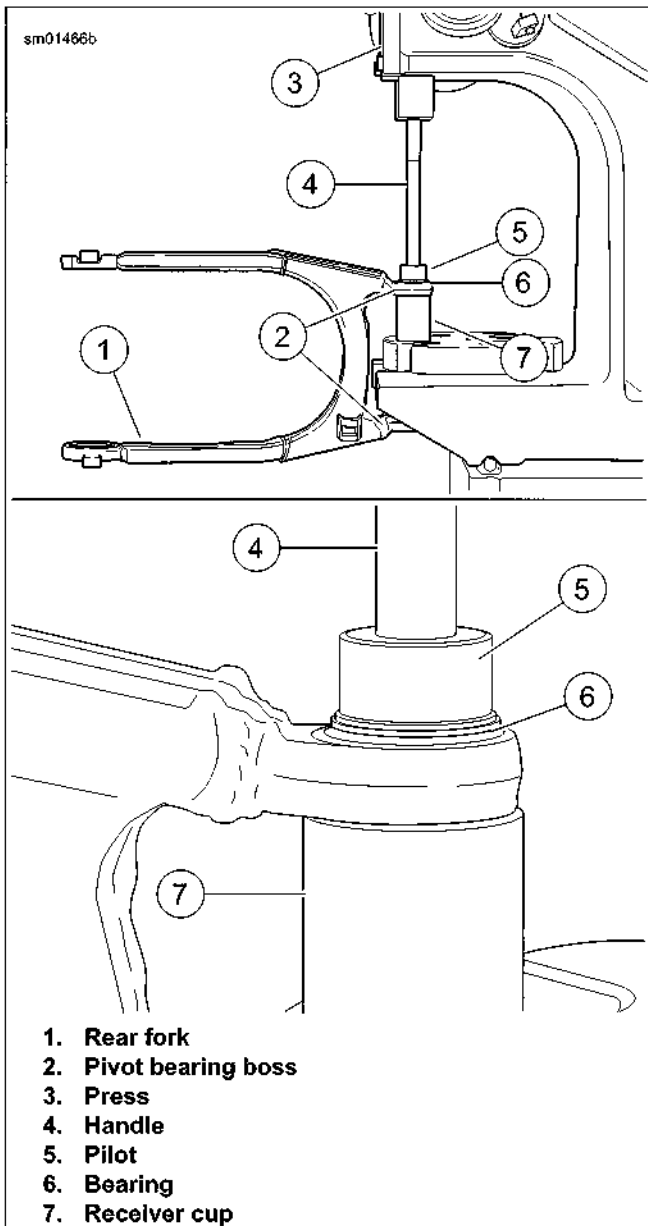

Figure 2-101. Installing Rear Fork Pivot Bearings
2. See Figure 2-101. With recessed end of cup facing up, place receiver cup (7) from BEARING REMOVER/INSTALLER TOOL (Part No. HD-46281) on press bed.
3. Place rear fork pivot bearing boss (2) over cup.
4. Place **new** pivot bearing (6) over pivot bearing boss, with retaining ring side of bearing up.
5. Slide pilot (5) through **new** pivot bearing, through pivot bearing boss, and into receiver cup.
6. Insert handle (4) down into pilot.